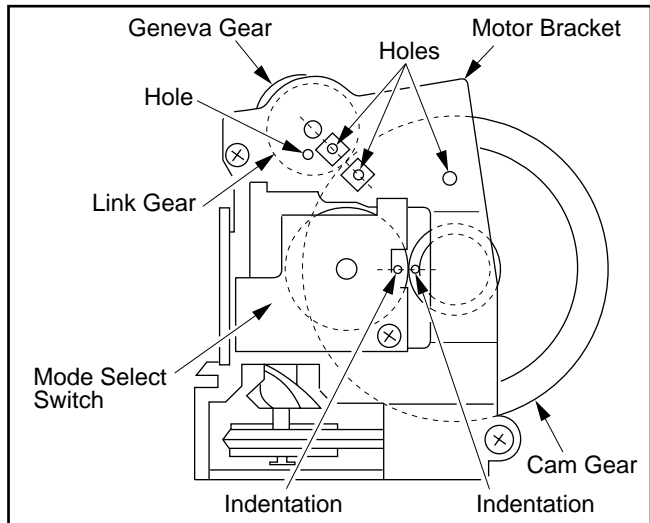
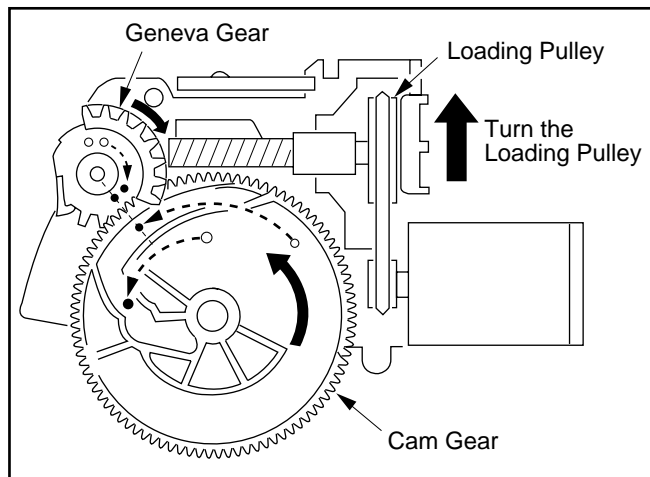

Fig. A4
Fig. A5
1. First, install the Geneva Gear, then the Cam Gear as shown in Fig. A4.
2. Turn the Loading Pulley of the Motor Block Ass'y in the direction shown by arrow in Fig. A5 so that the holes on the Geneva Gear and Cam Gear are aligned with holes on the Motor Bracket as shown in Fig. A4, A5.
First, align the hole of the Cam Gear with the hole of the Geneva Gear as shown in Fig. A5.
1. Install the Mode Select Switch so that the indentation on the Mode Select Switch aligns with the indentation on the Cam Gear. Refer to Fig. A4.